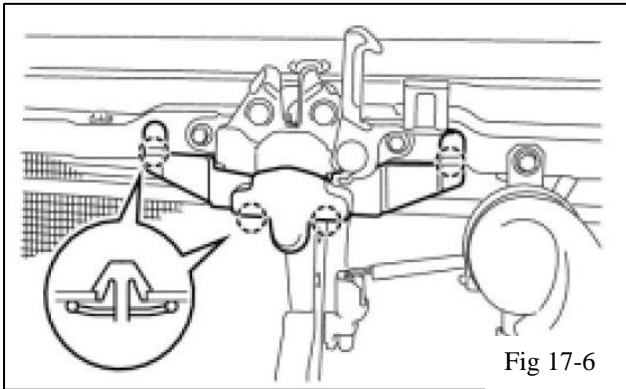

Fig 17-6
- (g) Disengage the 4 claws and remove the plastic hood lock release lever protector (Fig 17-6).